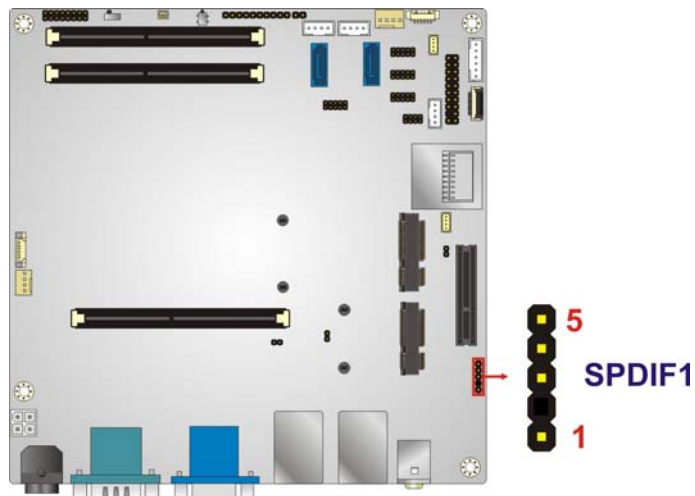

Figure 3-24: S/PDIF Connector Location
- CN Location:** See **Figure 3-24**